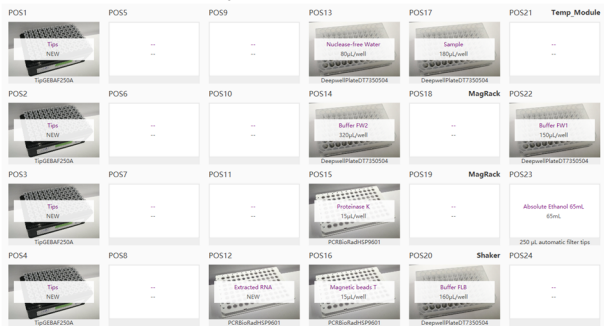

Figure 6. First Phase Operation Deck Arrangement
- Click the menu button and select **"Run Wizard"** in the menu. In the Run Wizard interface, click **"Solution"**, and select **[JB-A09-034 MGISP-960 Nucleic Acid Extraction Kit (VDR02P-96)]**, click **"Script"**, to select **[Nucleic Acid Extraction Kit (VDR02P-96)]**, operation deck arrangement of the first phase is displayed, as shown in following figure 6 and table 5. Follow the on-screen instructions to place the consumables, samples, and reagents, as shown in the figure 6. Confirm the placement and close the door.